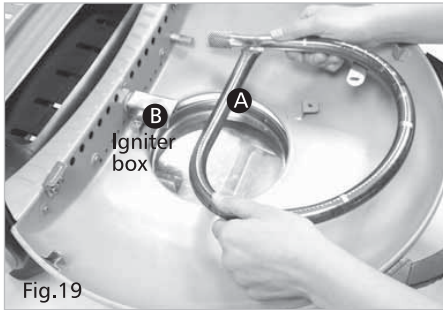

Fig.19
Make sure the Orifice ② (Fig.18) is fitted into the Burner Opening ① (Fig.18) and Igniter port hole ① (Fig.19) lines up with the arrow tab on the igniter box ② (Fig.19).